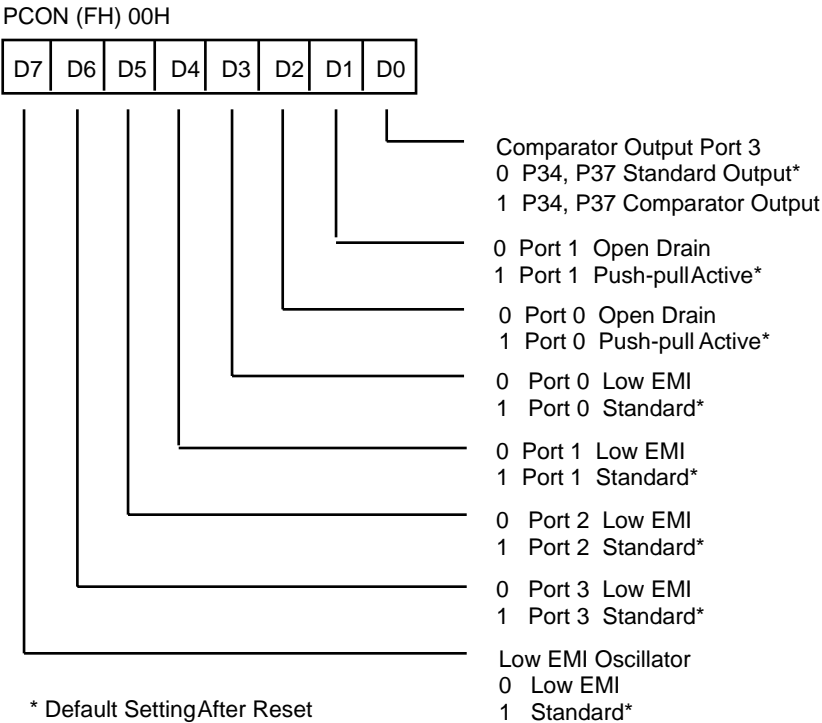

Figure 30. Port Configuration Register (PCON)
**Port Configuration Register (PCON).** The PCON register configures the ports individually; comparator output on Port 3, open-drain on Port 0 and Port 1, low EMI on Ports 0, 1, 2 and 3, and low EMI oscillator. The PCON register is located in the expanded register file at Bank F, location 00 (Figure 30).